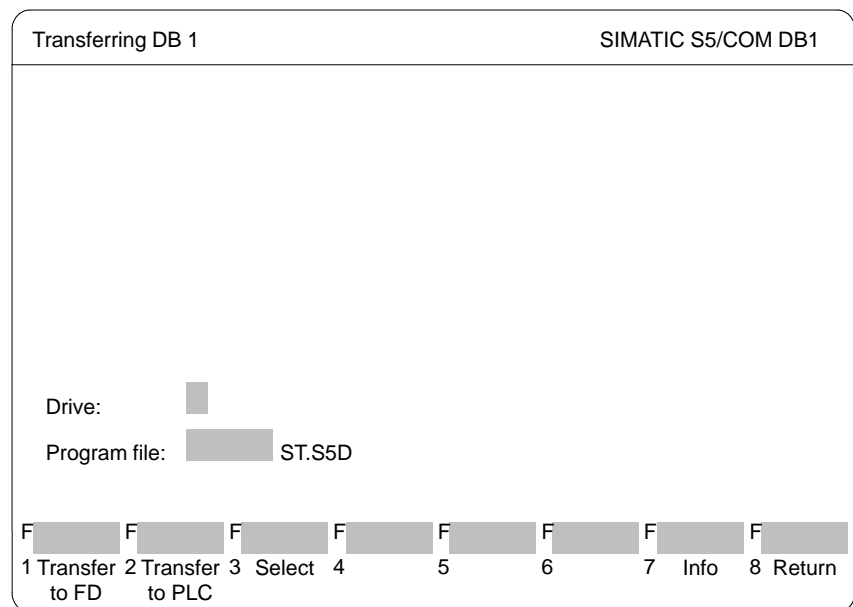

Figure 22-18 COM DB1 "Transferring DB1" Dialog
1. Press **F3** = *Transfer DB1* in the *Overview table* dialog (see Figure 22-18).